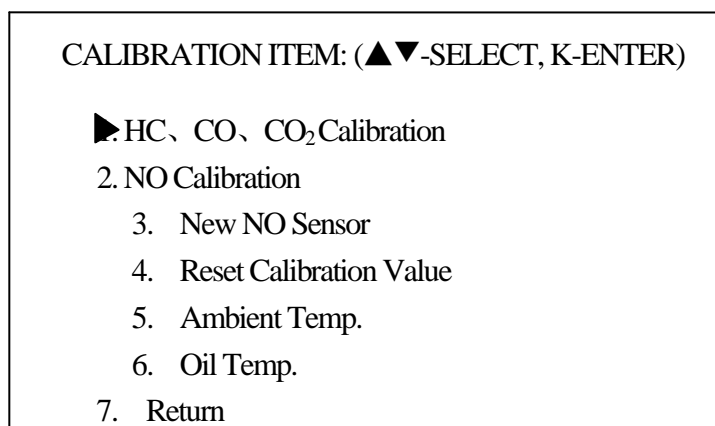

Figure 5. Sub-menu of “Calibration”
- Press S key on the main menu, move the cursor to “Calibration”, press K key, enter the sub-menu ‘Calibration’. (see Fig. 5)
- Press S key on the main menu, move the cursor to the item “Calibration”, press K key, enter the sub-menu ‘Calibration’. (see Fig. 5)